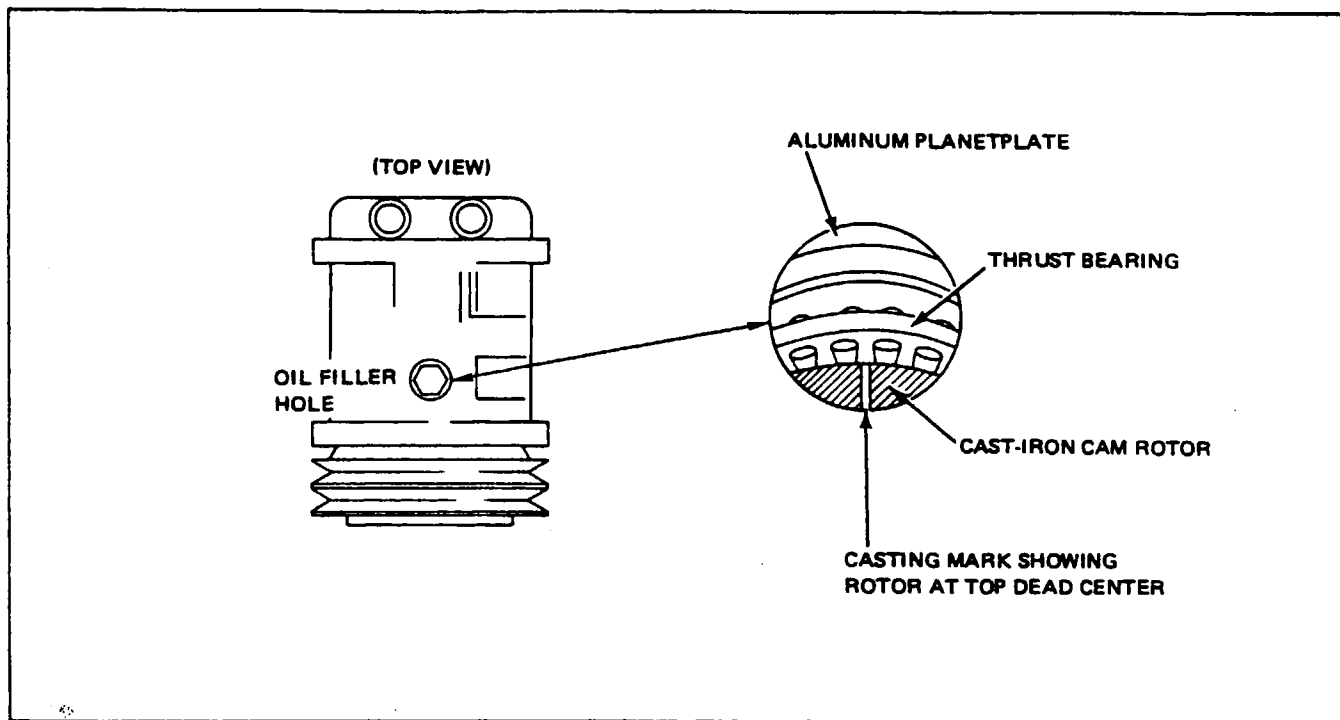

Figure 14-31. Top Dead Center Casting Mark (Sankyo Compressor)
- d. Position the rotor to top dead center (refer to Figure 14-31) by rotating the clutch front plate until the casting mark is visible in the center of the hole.